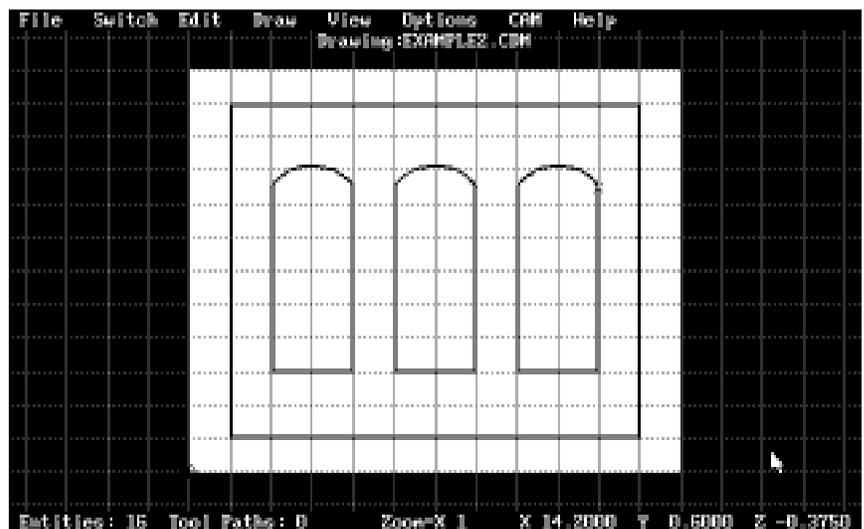

Figure 4.2.3 Completed Part Profile
10. Position the *START MARKER* at X2.0, Y8.5. Move the mouse arrow to X4.0, Y8.5 and press the <LMB>. You will see a second small cross on the screen, these are the two end points of the arc. Now move the mouse arrow to X3.0, Y8.5 and press the <LMB>. You now have an arc on the screen, but does it have the correct radius? You can find out by pressing  on the keyboard, select the arc with the mouse, and select [OK]. Change the radius of the arc to 1.125" by choosing **Edit-Change Radius** and then selecting the arc. Enter 1.125 and choose [ACCEPT]. The arc should now have the correct radius. Position the *START MARKER* at X-1.0, Y8.5, press <C> on the keyboard and select the arc. Position the *START MARKER* at X2.0, Y8.5 and press <P> on the keyboard. Press <P> again. The drawing is now complete. See **Figure 4.2.3**.